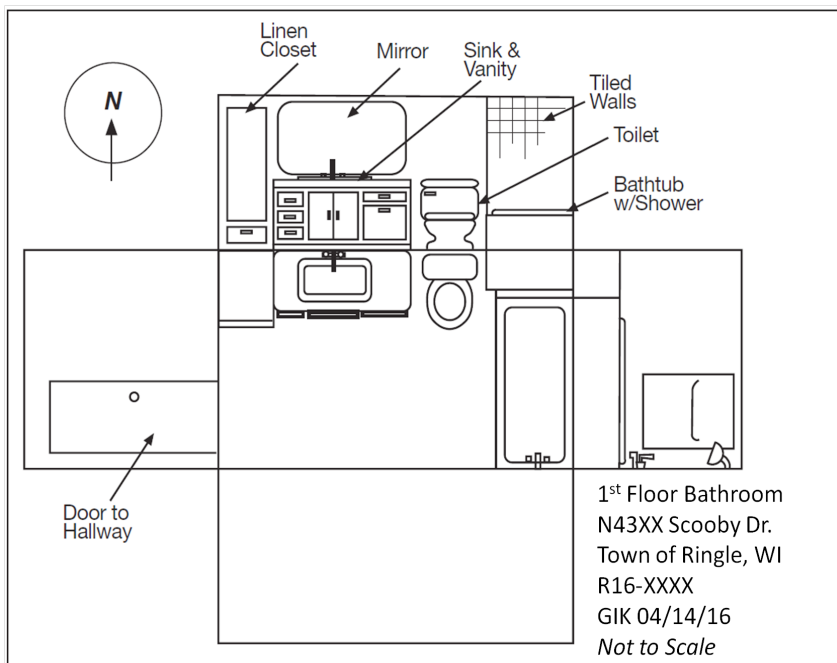

Fig. 4-3 Exploded view sketch of a bathroom.
- Exploded view or cross-projection sketch – consists of a combination of the first two sketches. It is similar to a floor plan except the walls have been laid out flat and objects on them have been shown in their relative positions (see Figure 4-3).